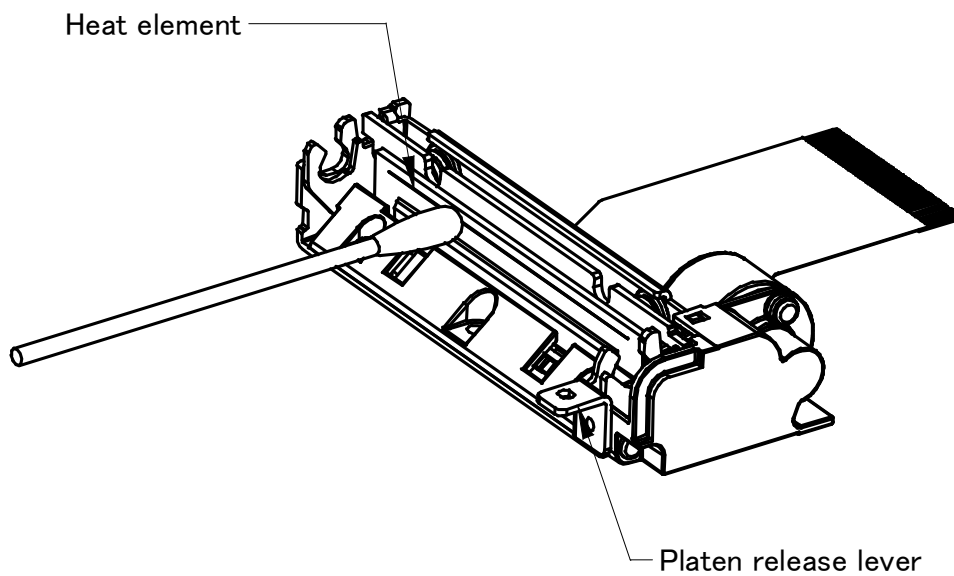

Figure 8-3 Cleaning Position of the Thermal Head
- Clean the heat element shown in Figure 8-3 using a cotton swab dipped in ethyl alcohol or isopropyl alcohol.